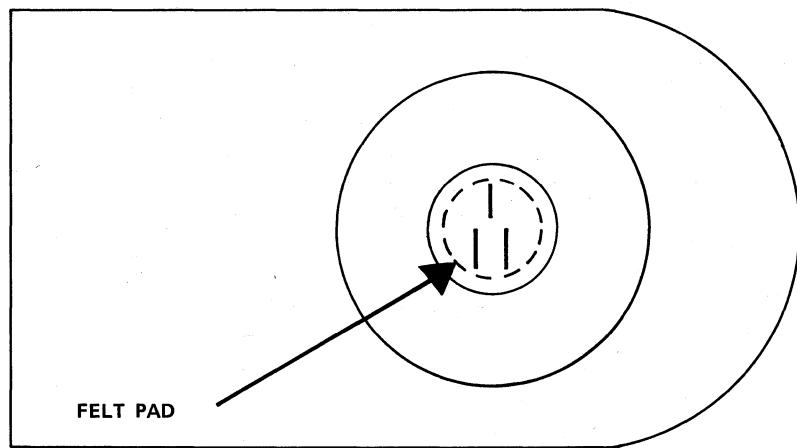

Figure 5-28
- 5.13.9 Visually align the felt pad on the arm with the head (see Figure 5-28).
- 5.13.12 Visually check to ensure that the felt pad clears the disk when the front door is opened (see Figure 5-28).
- 5.14.6 With a Phillips screwdriver, reinstall the three (3) mounting screws and their flat washers that attach the Module Assembly to the chassis (see Figure 5-28).